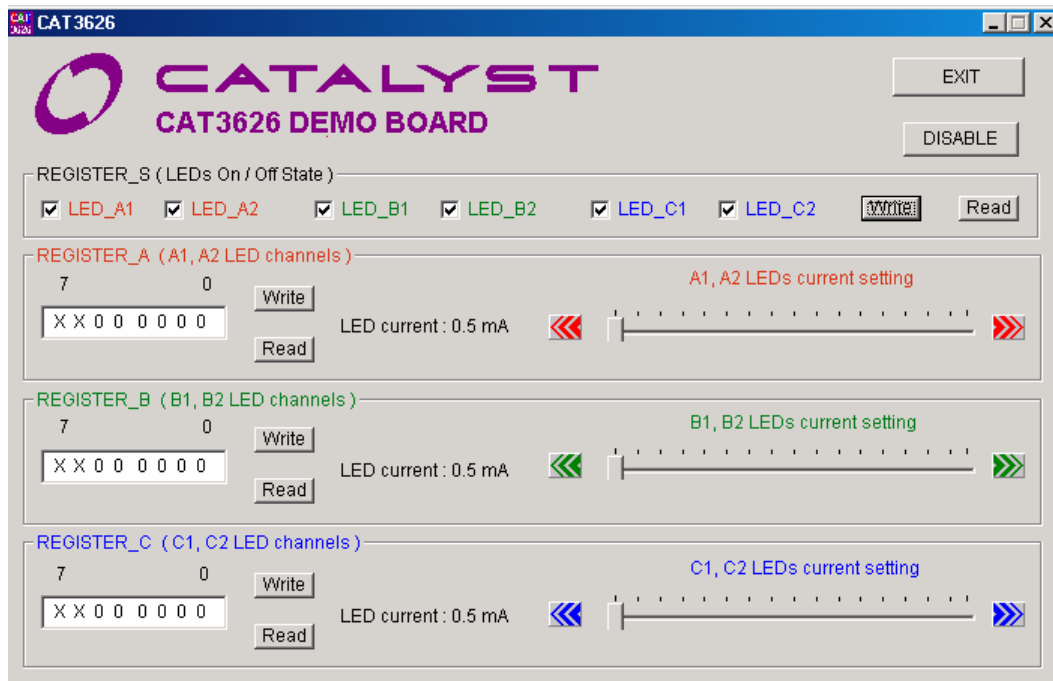

Figure 4. CAT3626DB1 with all channels enabled and LED currents set to min value
- f) When the program starts, the board will be in the disabled state. Press the "ENABLE" button and the CAT3626 will be enabled. After setting the EN input high, the user can write into the Register_S to activate the corresponding LED output channels. Figure 4 shows all the LED channels active. The current for each channel is set at the minimum value (=0.5mA).